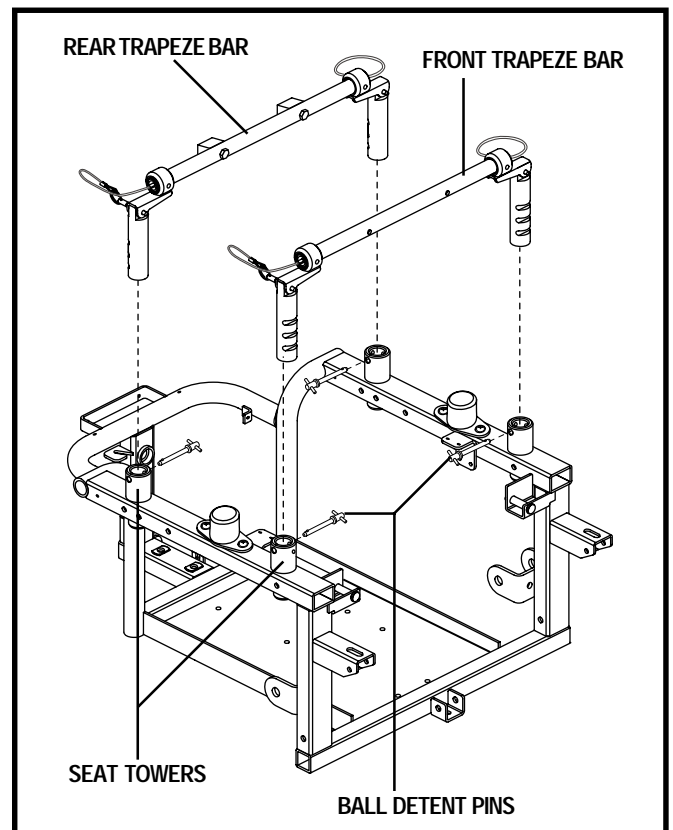

Figure 15. Seat Height Adjustment - Trapeze Bars
8. Remove the ball detent pin from each of the four seat towers. See figure 15.